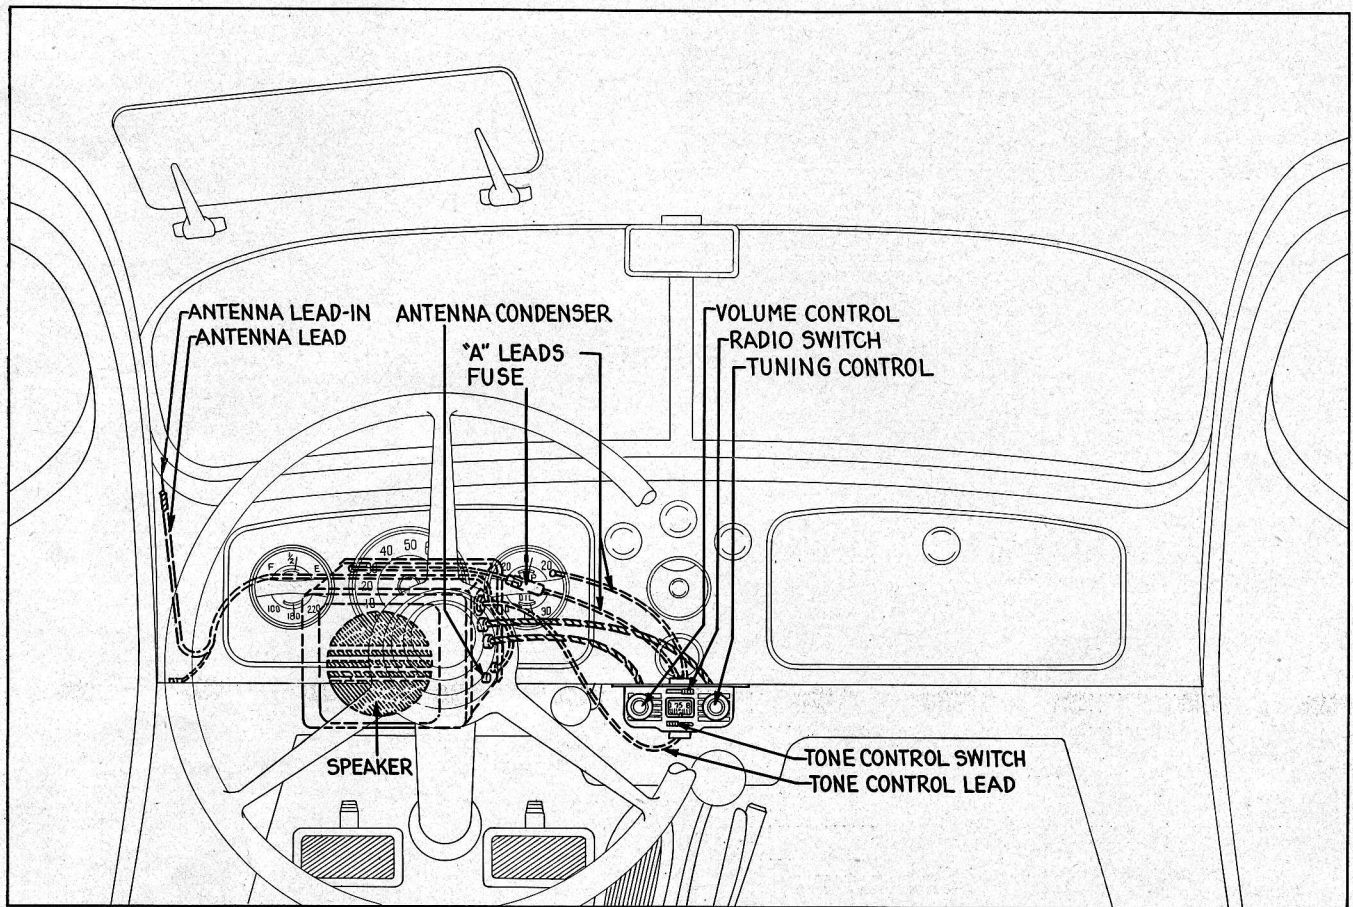

FIGURE 3
**RECEIVER**—The Receiver must be installed under the cowl on the dash. Be sure that in the location selected, there is ample foot room and that the Receiver does not in any way interfere with the operation of the control pedals and ventilators. The Receiver can be installed on the right side of the dash, in the center or on the left side above the steering column. (Figure 3 shows a typical installation on the left side.
**CONTROL UNIT**—The control unit fastens to the bottom edge of the instrument board. (Figure 3 shows a typical installation). Drill two holes in the instrument board flange